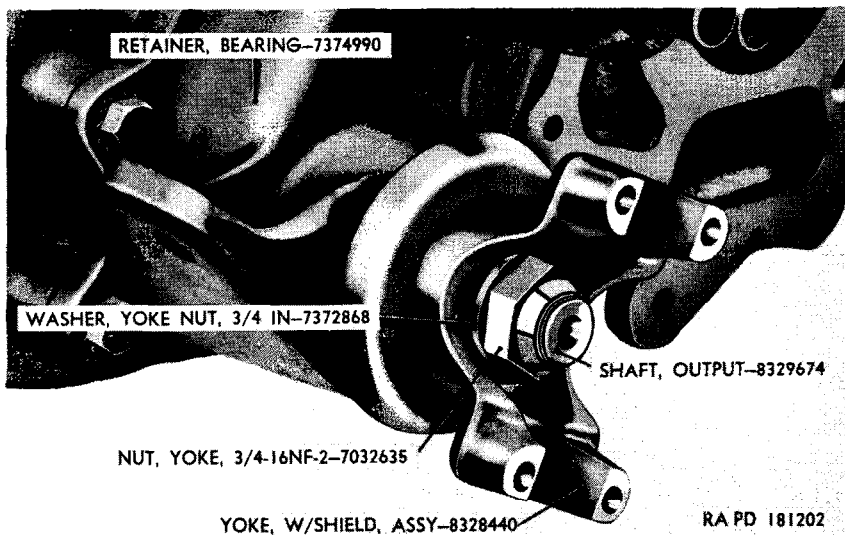

Figure 66. Transfer front axle output shaft bearing retainer installed.
a. Remove yoke nut and yoke nut washer (fig. 66) securing the yoke with shield assembly to the front axle output shaft. Using a suitable puller, pull the yoke from the front axle output shaft.